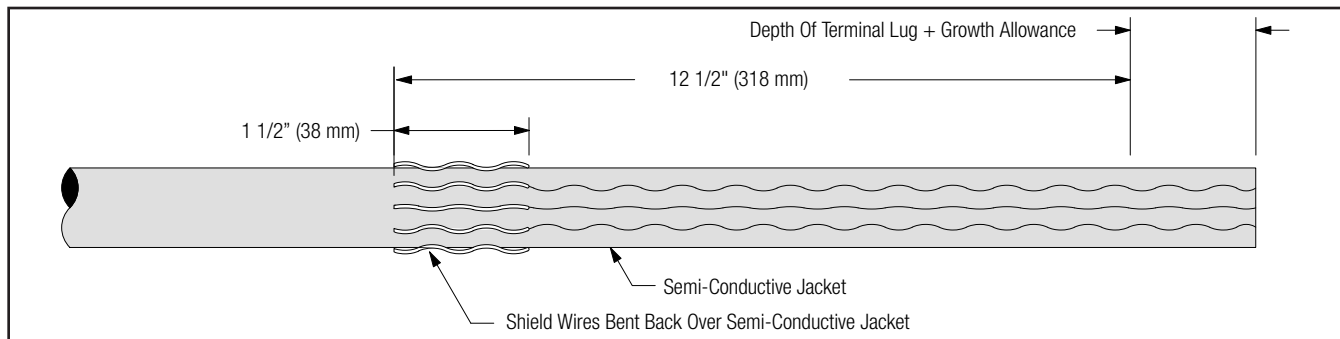

Figure 19
12.6 Remove constant force spring. Bend shield wires back upon semi-conductive jacket 1 1/2" (38 mm). Cut excess shield wire and discard (Figure 19).